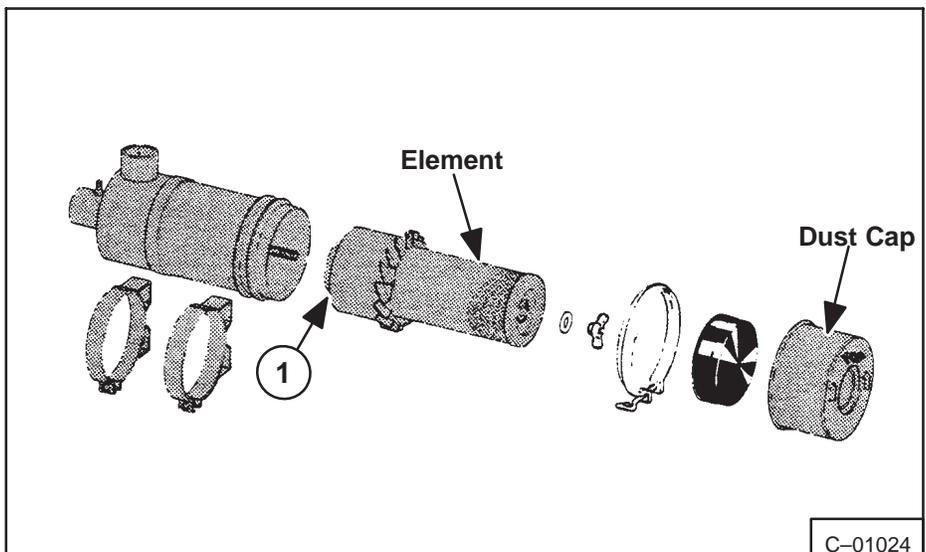

Fig. 1-10 Air Cleaner Assembly
3. Clean the inside of the filter housing so that the element has a smooth surface to contact at the seal (Fig. 1-10, Item 1). Check the filter housing for holes for corrosion, especially if the Bobcat loader is used in fertilizer application.